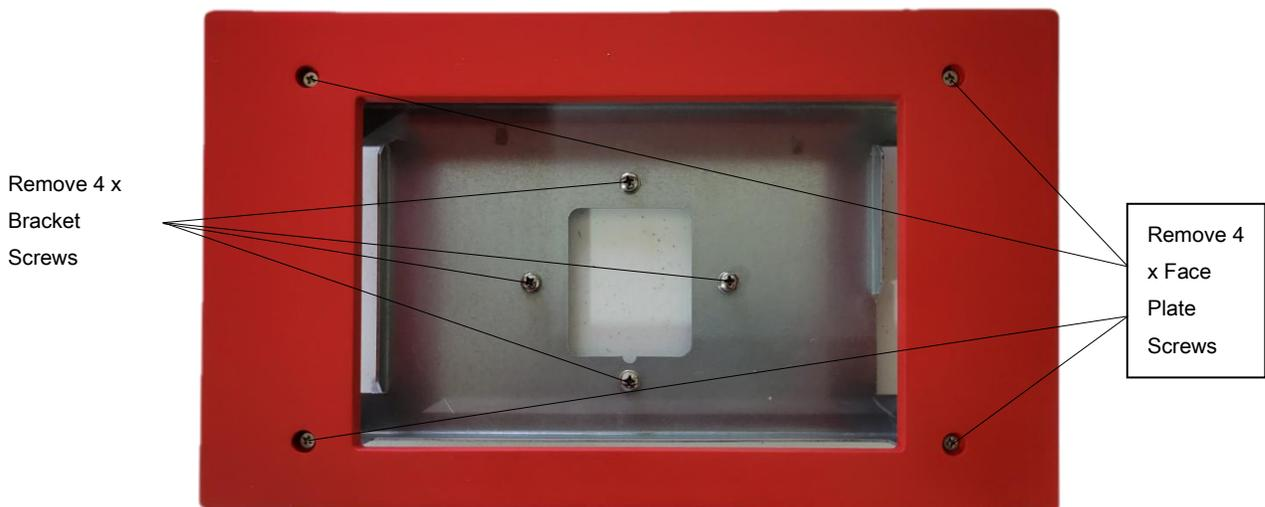

Figure 75: APV3-DAS - Flush Mount Kit Face Plate and Bracket Screw Removal
Follow the below instructions and see Figures 75 through 79, to flush mount the APV3-DAS:
- Remove the (4) Philips head screws holding the faceplate to the mounting bracket. Do not discard screws as these will be used to reinstall the face plate. Remove the face plate.
- Remove the (4) screws that are attached to the mounting bracket from the factory. These screws will be used in the next step to attach the APV3-DAS standard mounting bracket to the flush mount bracket. See Figure 75 below.